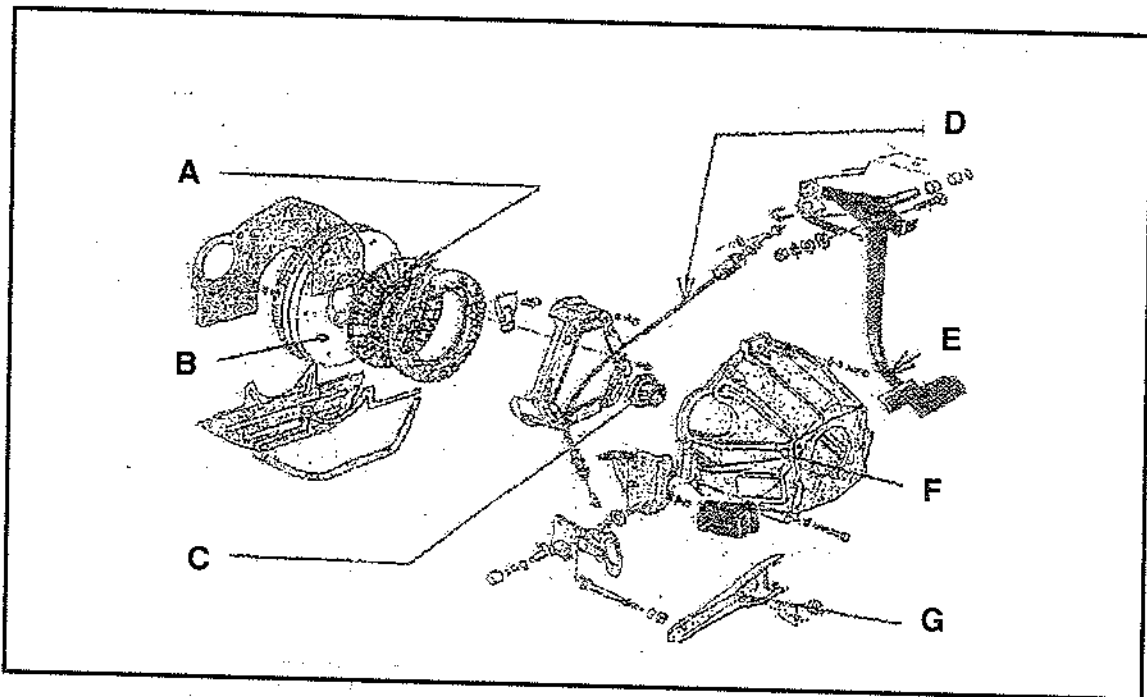

FIGURE 4
3.2 FIGURE 4 below shows a sketch of a single-plate clutch assembly. Name the parts by writing each answer next to the letter (A–G) in the ANSWER BOOK.